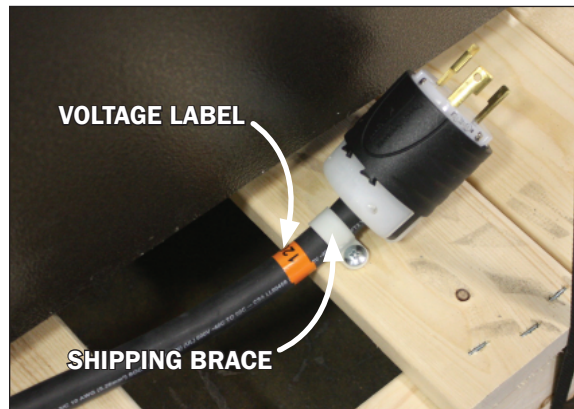

Fig. 1 Main power cord voltage label & shipping brace
4. Shipping braces, dependent on construction, can either have metal brackets that can be removed with a screw gun, or wood blocks that can be removed with a J-bar. A power cord's shipping braces (Fig. 1) are simple plastic clamps that can be removed with a screw gun. **Note: Shipping braces are normally located at each corner of the case. (Shipping braces used vary and are based on case design for best transport.)**
the data tag located on the left end exterior panel or top interior of the case, as well as the voltage label found on the main power cord (Fig. 1) which can be found at the rear base panel. **Note: Check that the voltage of the receptacle you are going to use for power and the voltage required for the case match.**